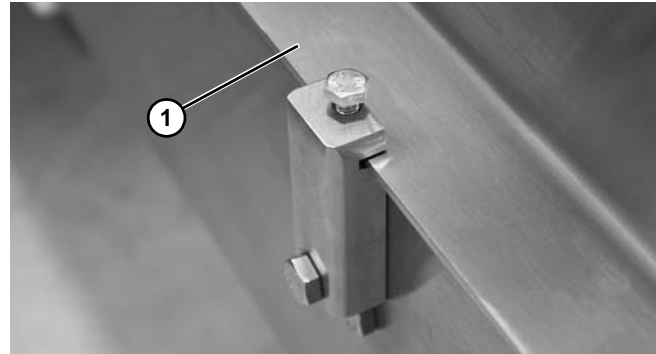

Figure 48
1. Remove guides (Figure 48, item 1) when required.